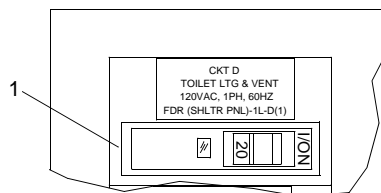

Figure 1. Circuit Breaker D
1. At the personnel shelter electrical distribution panel, position circuit breaker D (figure 1, item 1) to OFF and tag out (FM 55-502).